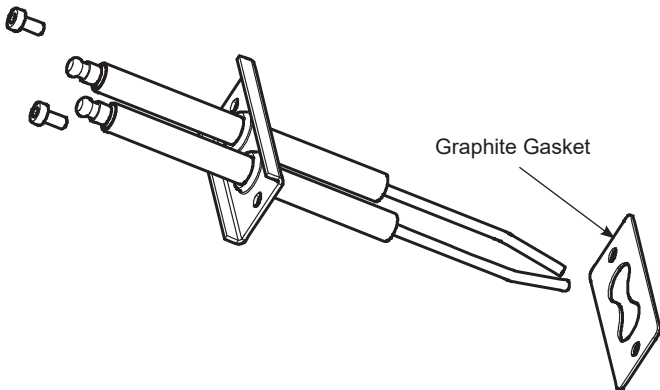

Figure 27: Igniter Electrode Assembly
- d. Install igniter as shown in Figure 27.